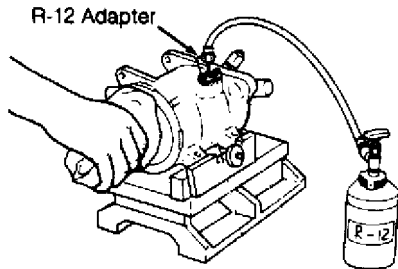

Fig. 8: Hitachi 6-Cylinder Compressor Shaft Seal Seat Removal
3) Insert Adapter (KV994C1552) into hole in middle of blind cover at low pressure side of compressor. Connect Pressurizer (KV994C1552) to can of R-12 refrigerant. Wrap a rag around compressor shaft. Apply pressure of 28-71 psi (2-5 kg/cm²) at low pressure (suction) service valve of compressor. Catch shaft seal seat in rag. See Fig. 8.